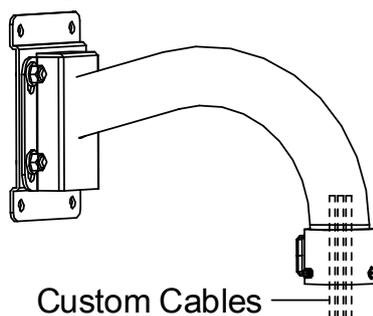

Figure 3-67 Getting the Cables through the Bracket
2) Make sure the cables get through the bracket, as shown in Figure 3-67.
- The bracket in Figure 3-67 is the recommended bracket for this series of speed dome, and a pendent adapter is required if any other bracket is selected. See Figure 3-11.